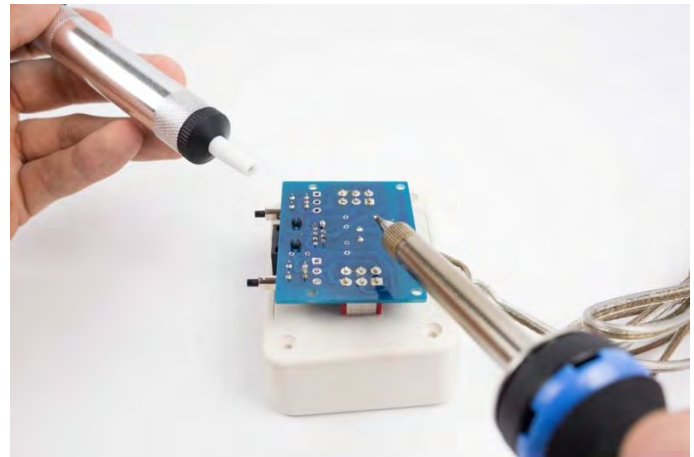

Figure 8
- ❑ Press the button while keeping the tip of the pump in place, causing the plunger to retract and remove the melted solder. (Figure 8)